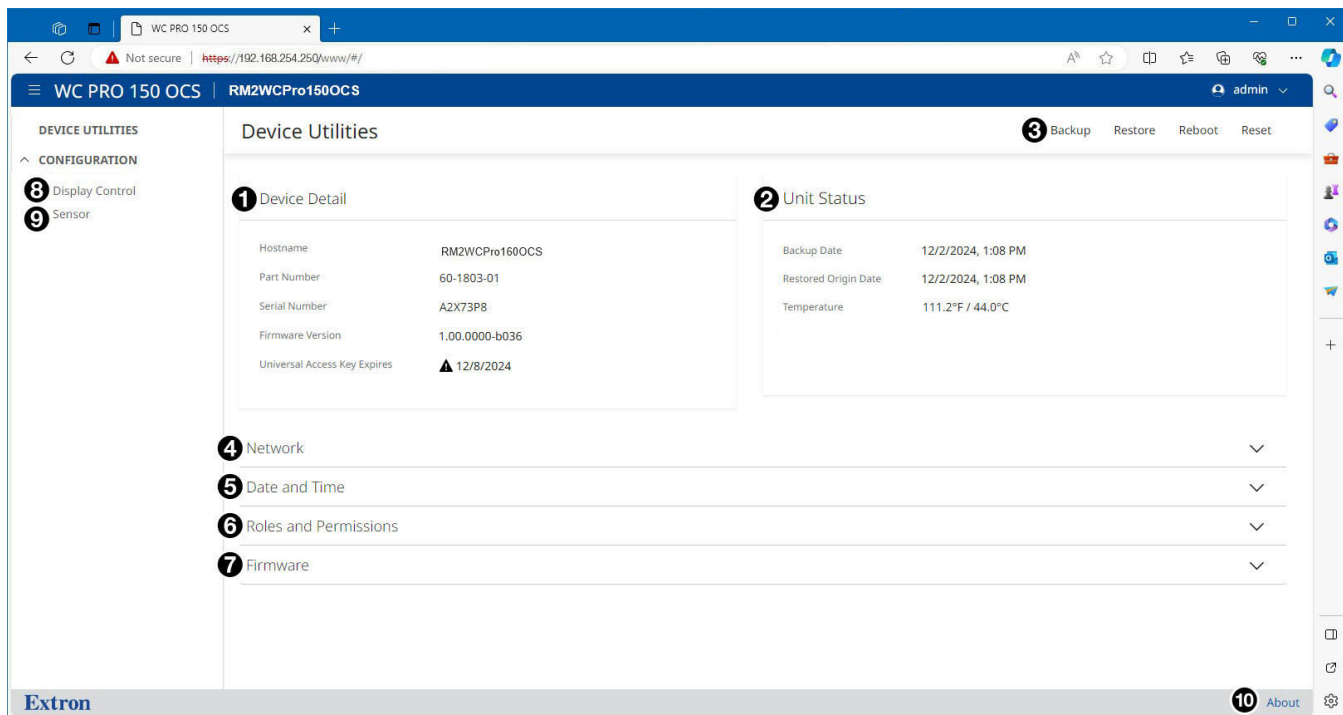

Figure 21. WC Pro 150 OCS Internal Web Page
The WC Pro 150 OCS internal web page opens to the Device Utilities page (see figure 21) that provides a read-only view of the general Device Details and Unit Status of the WC Pro 150 OCS, with some configuration panels, pages, and buttons for the date and time, network connections, passwords, firmware update, sensor settings and display control, backup, restore, reboot, and reset the unit. The panels that can be edited have an **EDIT** link to click to access the panel.
The Device Details panel (see figure 21, 1 on page 26) displays the hostname, part number, serial number, firmware version number, and expiration date of the Universal Access Key (only if the device does not have a LinkLicense).
In the Network panel (see figure 21, 4 on page 26), change the device name (hostname) and edit the IP address, subnet mask, gateway address, DNS server, and search domain name for the WC Pro 150 OCS, or turn DHCP **On** and **Off**.
The Date and Time panel (see figure 21, ⑤ on page 26) displays the mode used to set the date and time, the current date, and current time. There are two options to set the date and time: manual mode and sync to NTP (Network Time Protocol) servers.
The Roles and Permissions panel (see figure 21, ⑥ on page 26) displays whether Admin and User passwords have been set and provides an option to set administrator or user passwords. It does not display the actual password.
The Firmware panel (see figure 21, 7 on page 26) displays the current firmware version, the web version (version of the internal web pages) and the date it was last updated. Update the firmware on the WC Pro 150 OCS from this panel (see Downloading the Software and Getting Started on page 41 to download the firmware files).